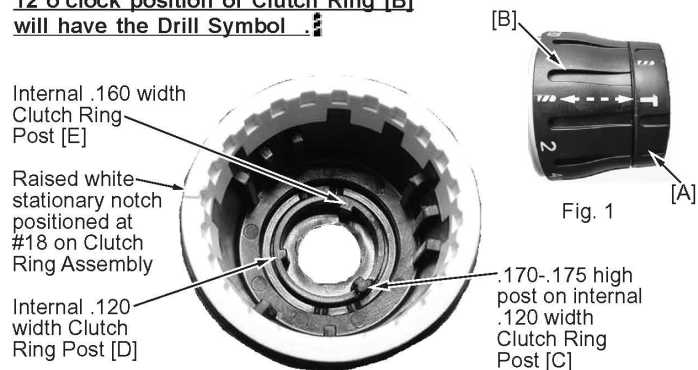

Fig. 2
- Turn clutch ring assembly to position shown in fig. 2 to view internal clutch ring posts [C,D,E] for correct position prior to assembling clutch ring to gearbox.